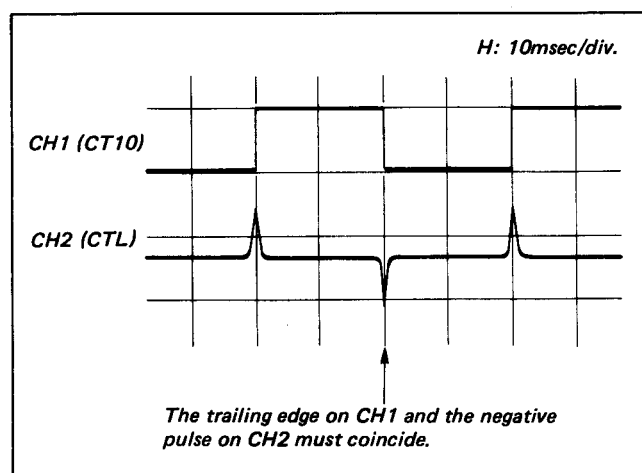

Fig. 4-22
- 1) When the mode is switched over from STANDBY to PLAYBACK, a solenoid actuating noise is heard three times. Check that the CTL signal position at the 3rd actuation is as shown in Fig. 4-22. The CTL signal position shifts, so switch-over between STANDBY and PB several times and take the center of the range of CTL positions for checking.